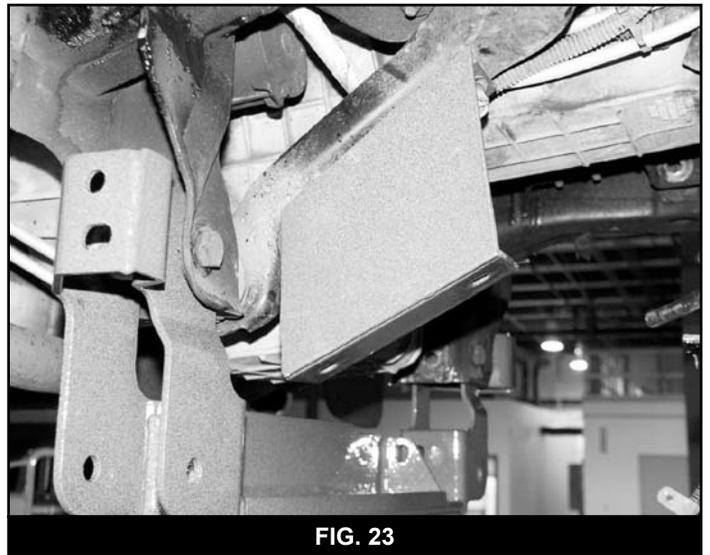

FIG. 23
49. Loosely install passenger side differential drop bracket (02101) to the OE bracket using the original hardware. Leave loose (Fig 23).